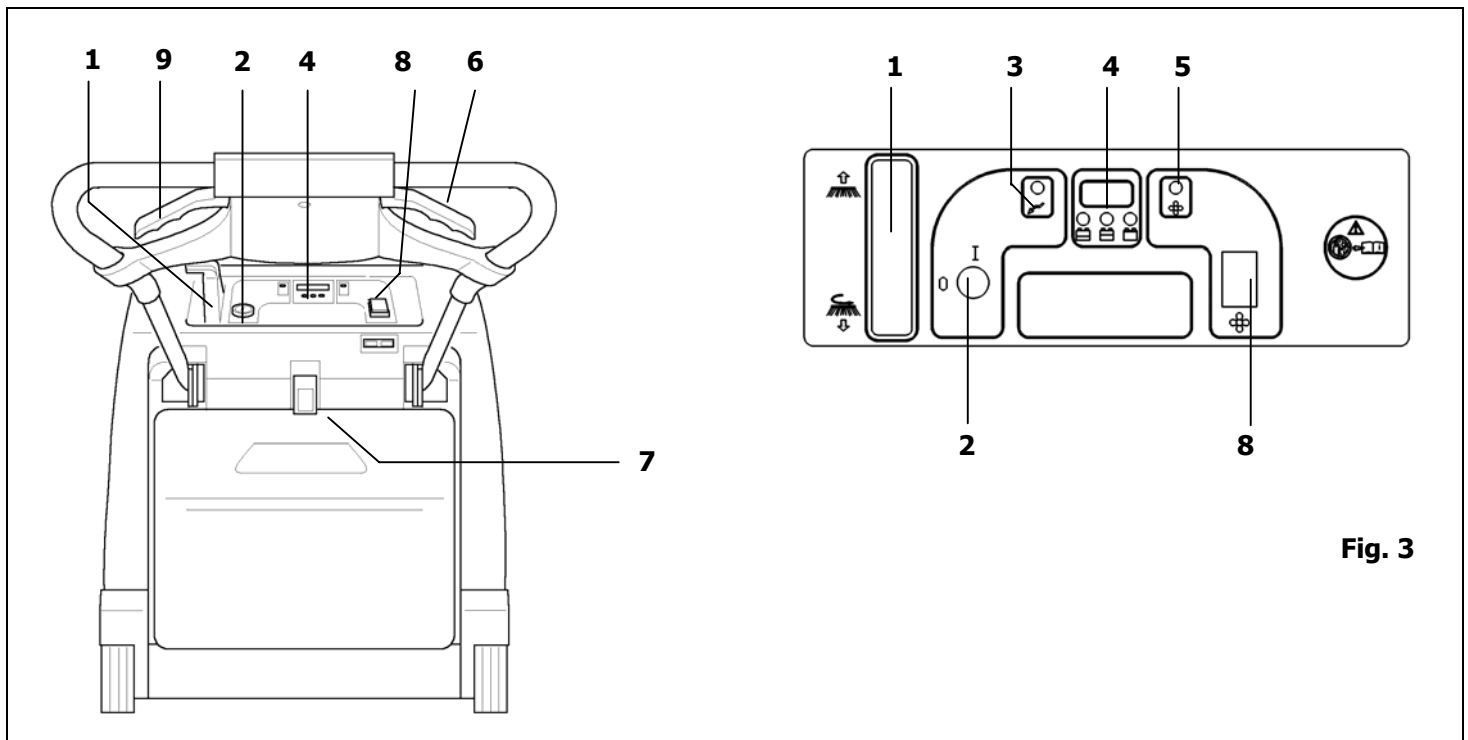

Fig. 3
- Switch the brush lift lever (**1 Fig.3**), to **OFF**.
- Make sure the side brush **pos.1 Fig.3** is **0**.
- **Turn the switch pos.2 Fig.3 to position I**. Wait 10 seconds before operating machine.
- Before operating machine, check the indicator **pos.4 Fig.3**, to assess whether the battery is fully charged. If it is not, proceed to recharge it.
- Pull the traction lever **pos.6 Fig.3** , to start cleaning.
If necessary, operate lever **pos. Fig.3**, by turning it to **I position** , to start the side brush. If you have been using the side brush, at the end of your work remember to turn it to **0 position** . Switch off the machine and remove the key from the control panel.
The length of time the battery charge lasts will depend on its routine maintenance and on its discharge level. Do not allow the battery charge to drop below the limit signalled by the indicator lights **pos.4 Fig.3**. Once the max. discharge level has been reached, the machine stops and must be recharged in order to restart working.
Press and release the lever of the appropriate filter shaker **pos.7 Fig. 3** .